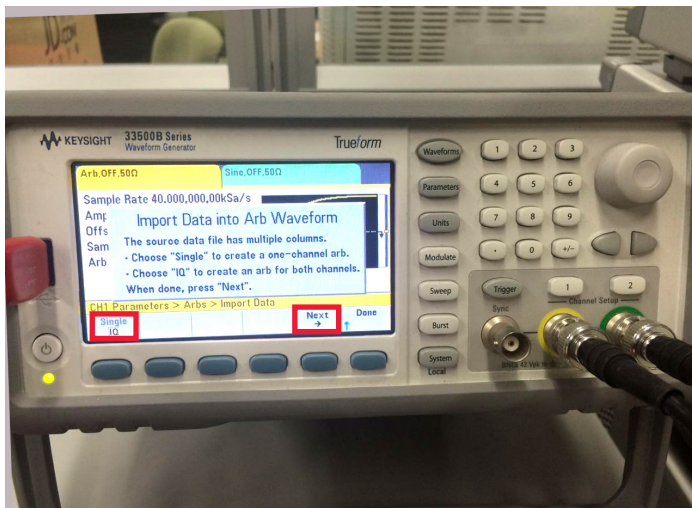

Figure 5.
- 2.4 Toggle the 33522B to IQ Mode and select **Next**. See Figure 5